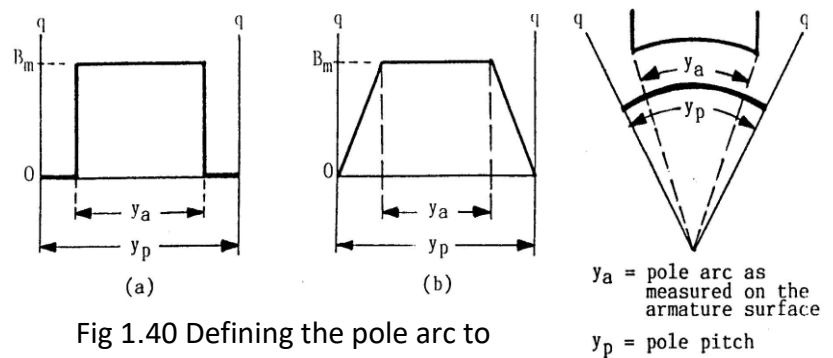

Fig 1.40 Defining the pole arc to pole pitch ratio, $\alpha = y_a/y_p$.
1.6 The armature of a 6-pole dc machine is 80 cm long and has a diameter of 50 cm. The maximum air gap flux density is 1.5 T. The pole arc covers 70% of the pole pitch (see fig. 1.40). The armature speed is 500 rpm (revolutions per minute). Assume the air gap flux density is distributed as in fig. 1.40b.